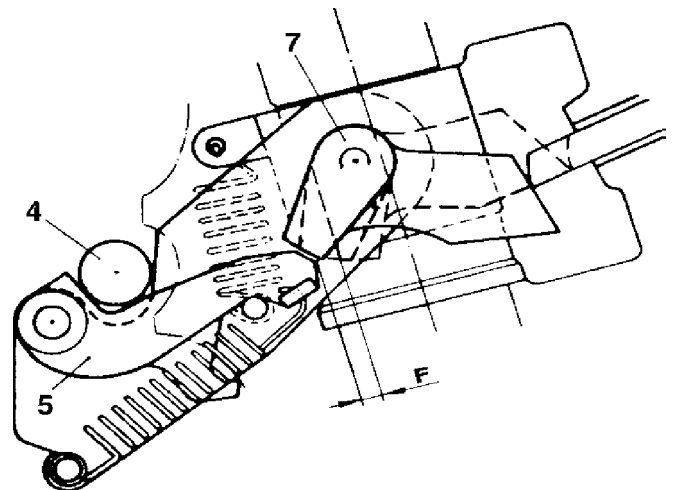

Fig. 50.
- Check that there is full overlapping between the tabs of the locking brackets and the connecting surfaces of the spring hooks 5 Fig. 50 when "Reverse" is engaged.
- The clearance between the tabs of the locking bracket and the contact surfaces of the spring hook in "Neutral" should be approx. 2 mm (0.08"). See measurement at F, Fig. 50.